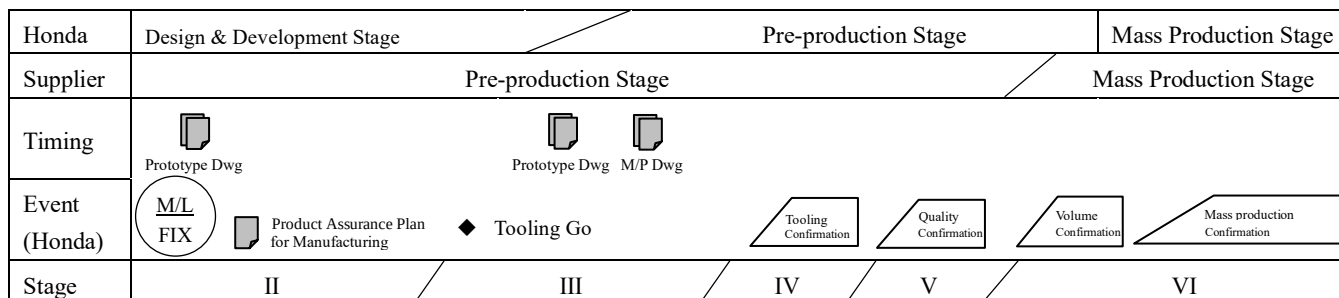

Figure 1 Stage image
- a) Linkage to each stage (see Figure 1 and Table 1)